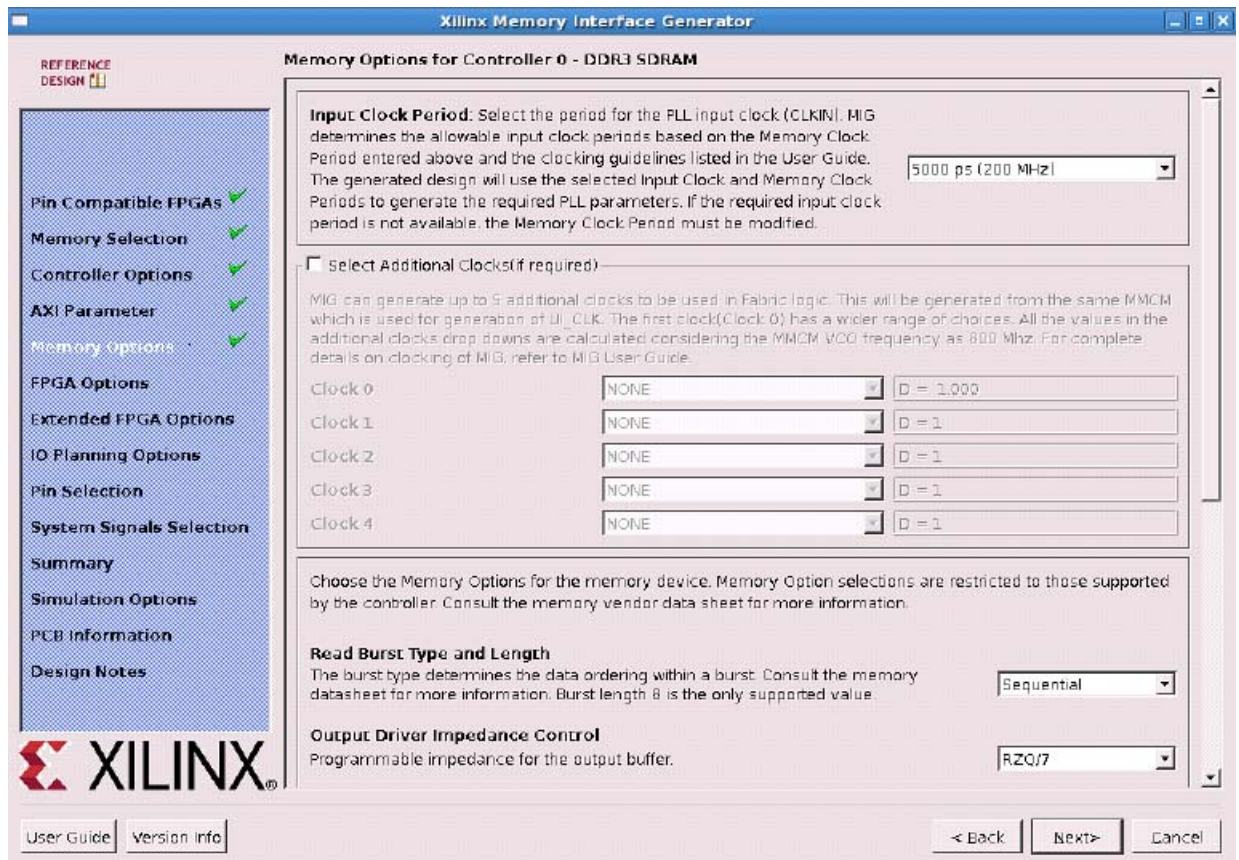

Figure 31: MIG Memory Mode Options
10. In **Memory Options**, select the following, then click **Next** (Figure 31).